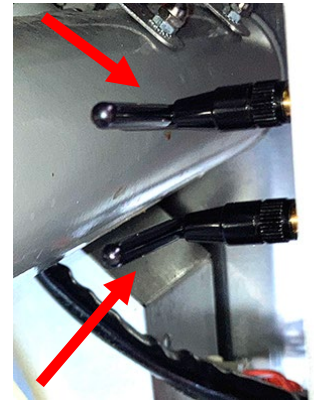

Figure 8
8. Orient the antennas towards the left of the upright brace, away from the JIB cabinet. Ensure the antennas are parallel to each other (see Figure 8).